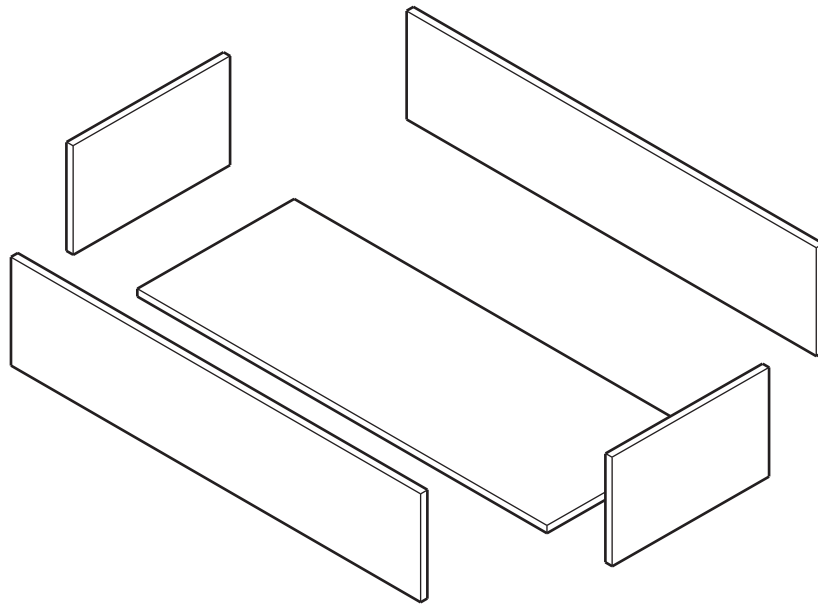

Fig. 9
- (c) The planter box and stand is designed as flat-pack for self-assembly by the consumer. Fig. 9 shows the separate parts of the planter box.